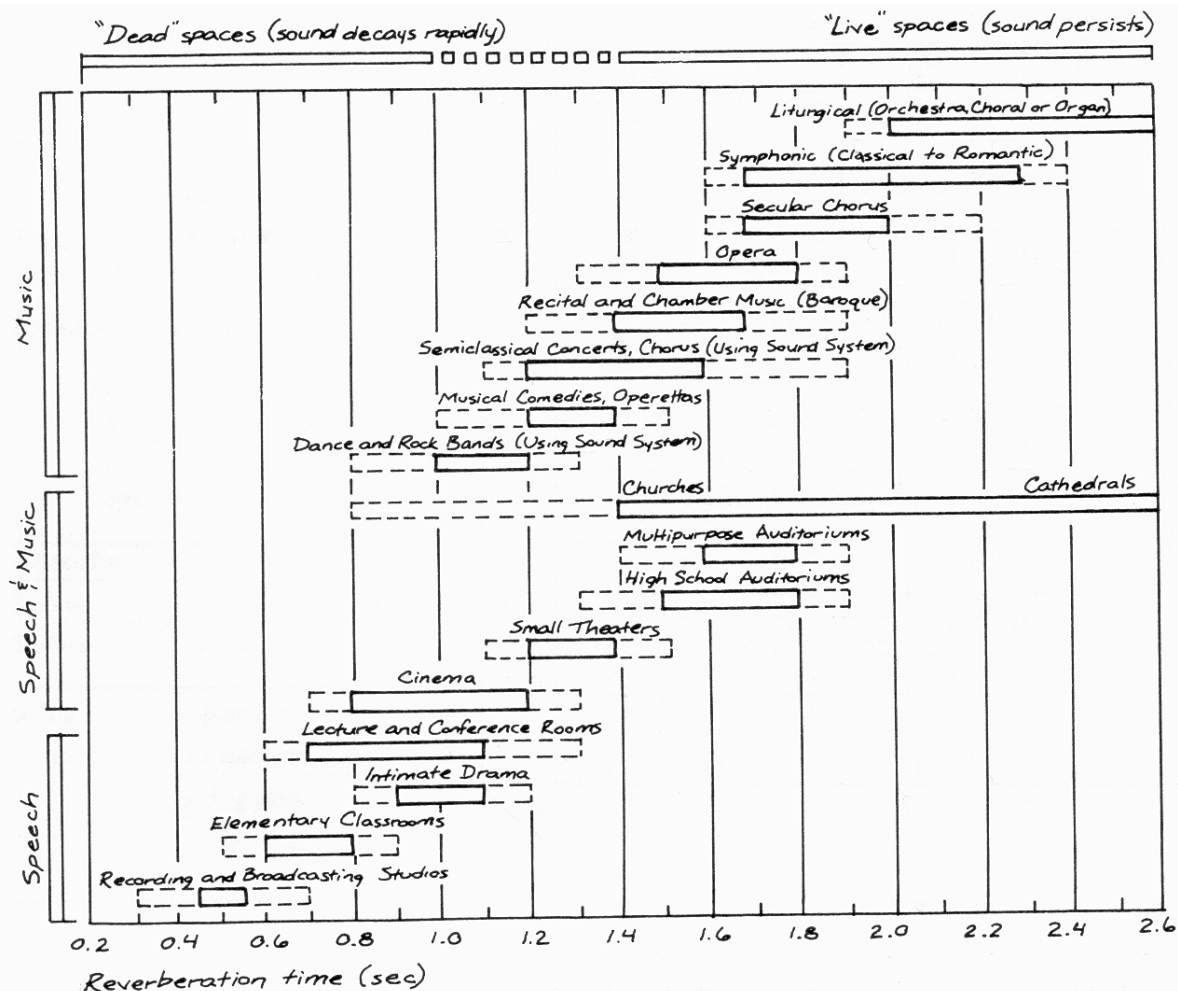

Figure E3.3.1 Recommended Reverberation Times. Adapted, by permission, from Egan, *Architectural Acoustics*, 64.
1. Determine the recommended reverberation time, T_R , for your spaces [Figure E3.3.1 or *MEEB*, Figures 23.16, p.1060]. If you cannot determine a recommended T_R , make a note to that effect, and make an educated guess.